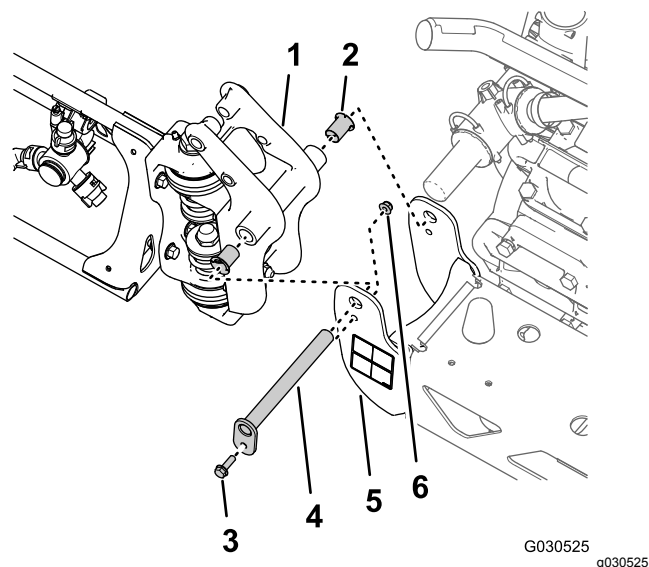

Figure 74
- Remove the flange bolt (5/16 x 1 inch) and flange locknut (5/16 inch) securing the pivot pin to the pivot bracket (Figure 74).
- Remove the pivot pin from the pivot bracket for the center boom section and the pivot fitting for the outer boom section (Figure 74).
- Separate the outer boom section from the center boom section and remove outer section from the machine (Figure 74).
- Remove the 2 nylon-flange bushings from the pivot fitting of the outer boom section (Figure 74).